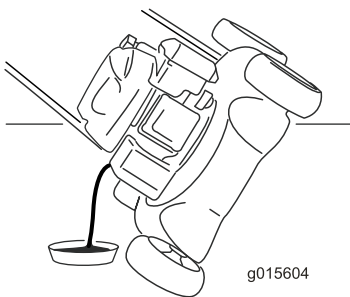

**Figure 24**
3. Remove the dipstick by rotating the cap counterclockwise and pulling it out (Figure 24).